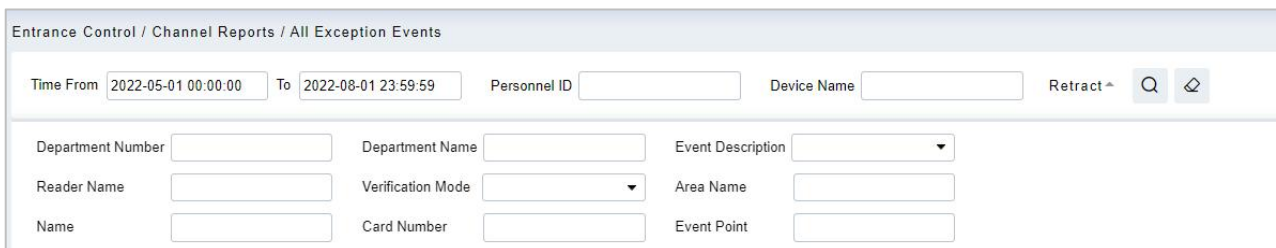

Figure 12-52 All Exception Events
Step 2: In All Exception Events interface, fill in the corresponding query information and click the **Query** symbol to complete the query of access record tables, as shown in Figure 12-52.